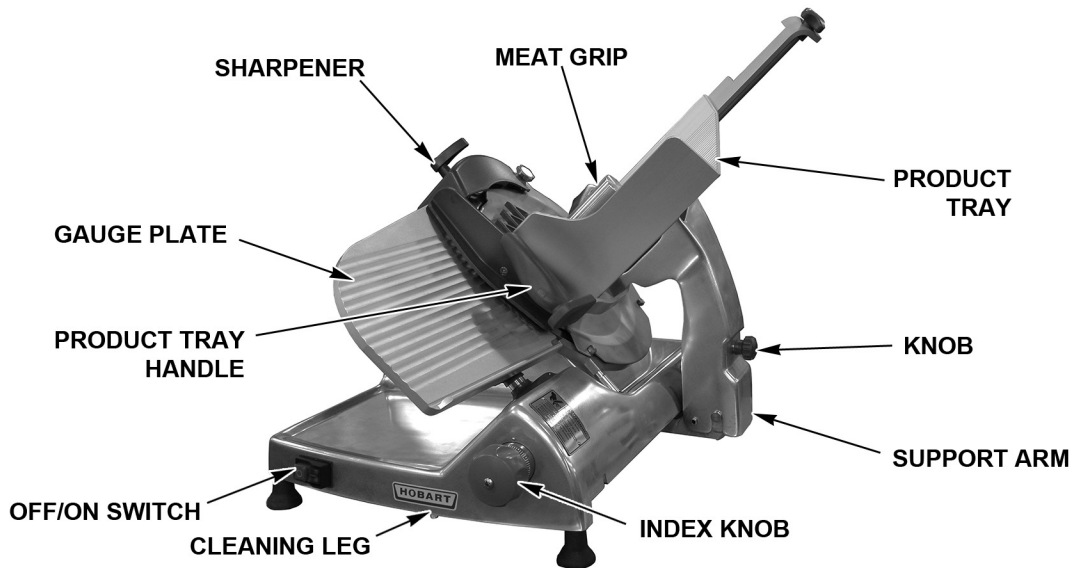
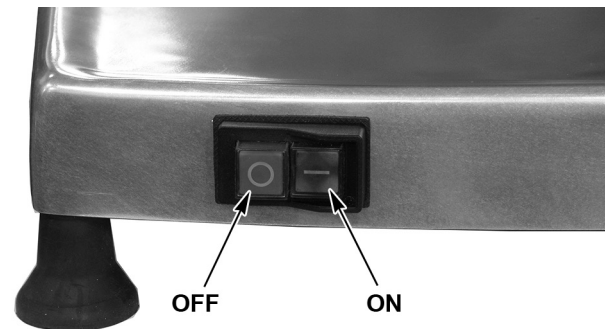

Fig. 3
Fig. 4
- Close the Gauge Plate (Fig. 3) by turning the Index Knob (Fig. 3) fully clockwise.
- Raise the Meat Grip (Fig. 3) to the top of the Product Tray (Fig. 3) to rest in the Meat Grip Slot.
- Place the product to be sliced against the Gauge Plate (Fig. 3) on the Product Tray (Fig. 3).
- Turn the slicer on by pressing the ON button (Fig. 4).
- Use the Product Tray Handle (Fig. 3) to push and pull the Product Tray back and forth to slice. When finished, press the OFF Button (Fig. 4) to stop the slicer.